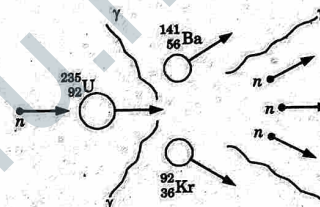

Fig. 2.14.1. Nuclear fission.
4. The diagrammatic sketch is given in Fig. 2.14.1. A neutron strikes the ${}_{92}^{238}\text{U}$ nucleus and in the process two nuclides ${}_{56}^{141}\text{Ba}$ and ${}_{36}^{92}\text{Kr}$ are formed with the release of 3 neutrons.